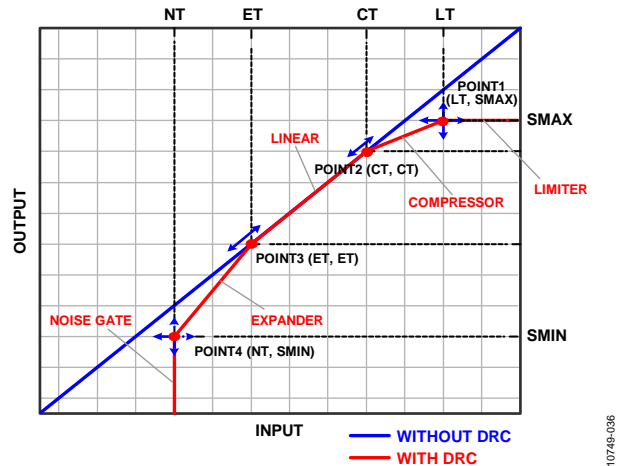

Figure 37. DRC Input/Output Relationship
The overall DRC characteristics are illustrated in Figure 37. A number of threshold levels (referred to the input) are used, which are defined as the limiter threshold (LT), compressor threshold (CT), expander threshold (ET), noise gate threshold (NT), maximum output signal amplitude (SMAX), and minimum output signal amplitude (SMIN). The corresponding bits are DRC_LT, DRC_CT, DRC_ET, DRC_NT, DRC_SMAX, and DRC_SMIN and can be found in Register 0x59 to Register 0x5D.